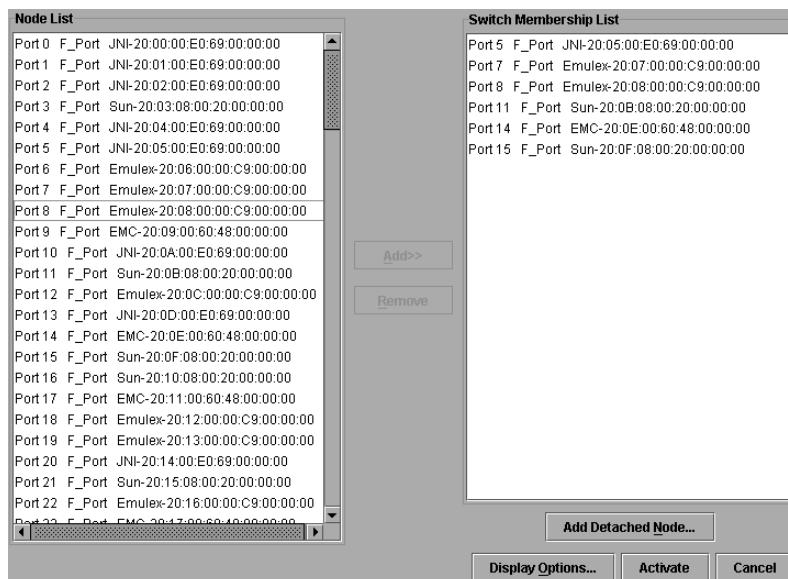

Figure 81: Switch Binding Membership List dialog box
1. Choose the **Configure > Switch Binding > Edit Membership List** from the **Product Manager** window. The **Switch Binding Membership List** dialog box displays (Figure 81).